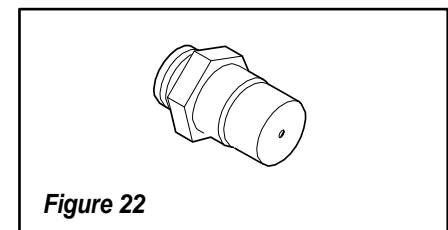

Figure 22
A. Remove the orifice from the manifold with a 1/2" deep throat socket. See the following table for orifice sizes for natural and propane models. **Figure 22** illustrates the orifice. Use pipe joint compound or Teflon tape on all pipe fittings before installing (ensure propane resistant compounds are used in propane applications, do not use pipe joint compounds on flare fittings).